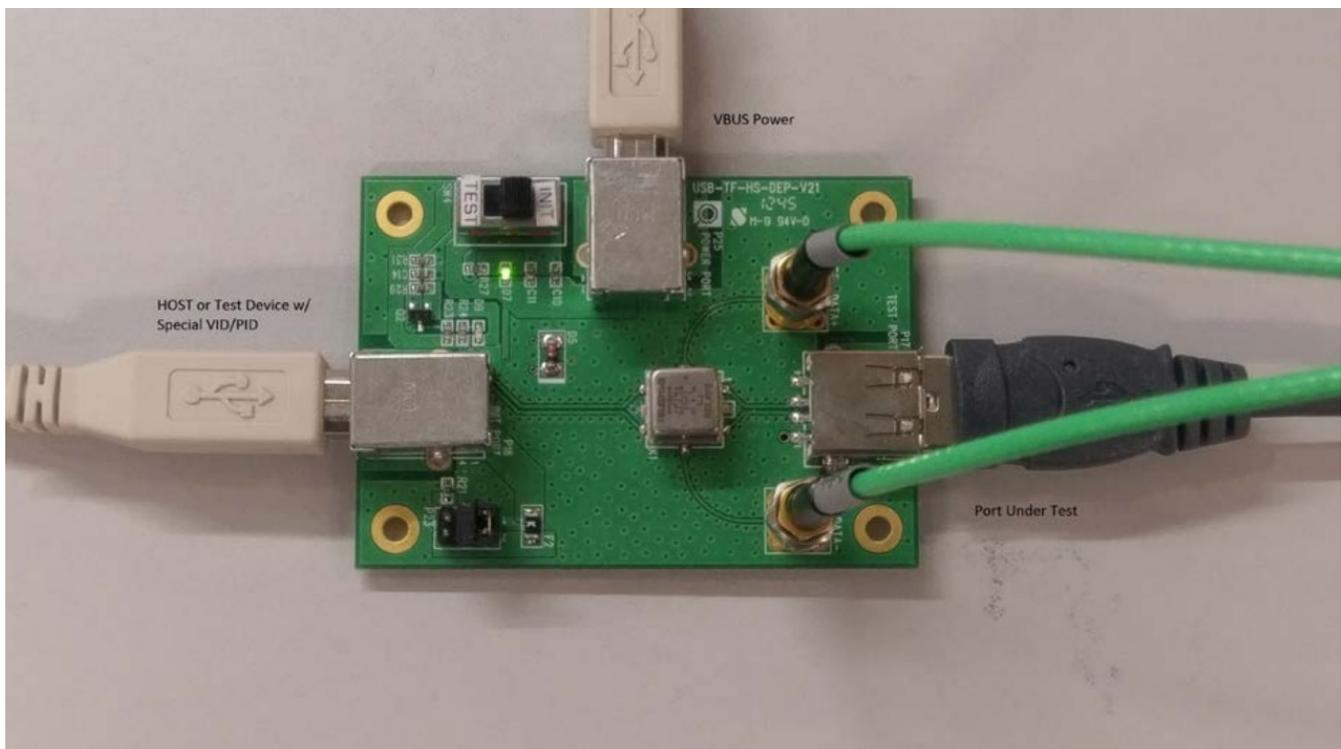

Figure 8. USB 2.0 Device High-Speed Test Fixture with Embedded Host
1. Use the USB-IF (Or Scope Vendor's) USB 2.0 Device High-Speed Test Fixture (See Figure 8). Connect the USB Test Fixture to the Head Unit USB Port to be tested.